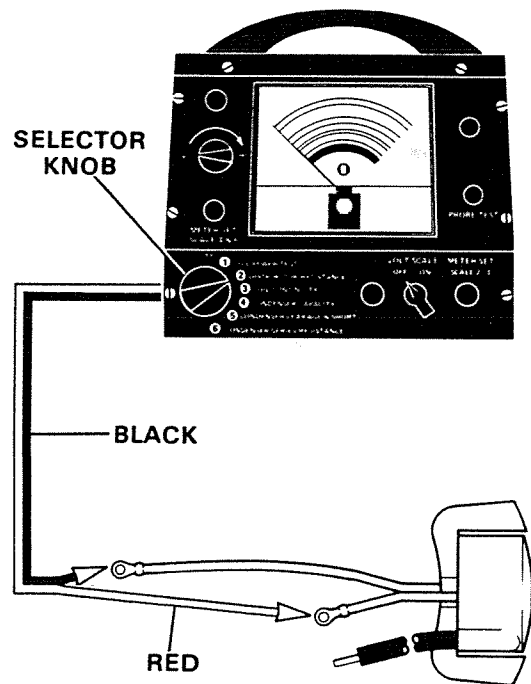

Figure 21. Testing Coil Continuity, Test #1. (Primary)
2. Connect small red test lead to either primary terminal. Connect small black test lead to remaining primary terminal. Figure 21.